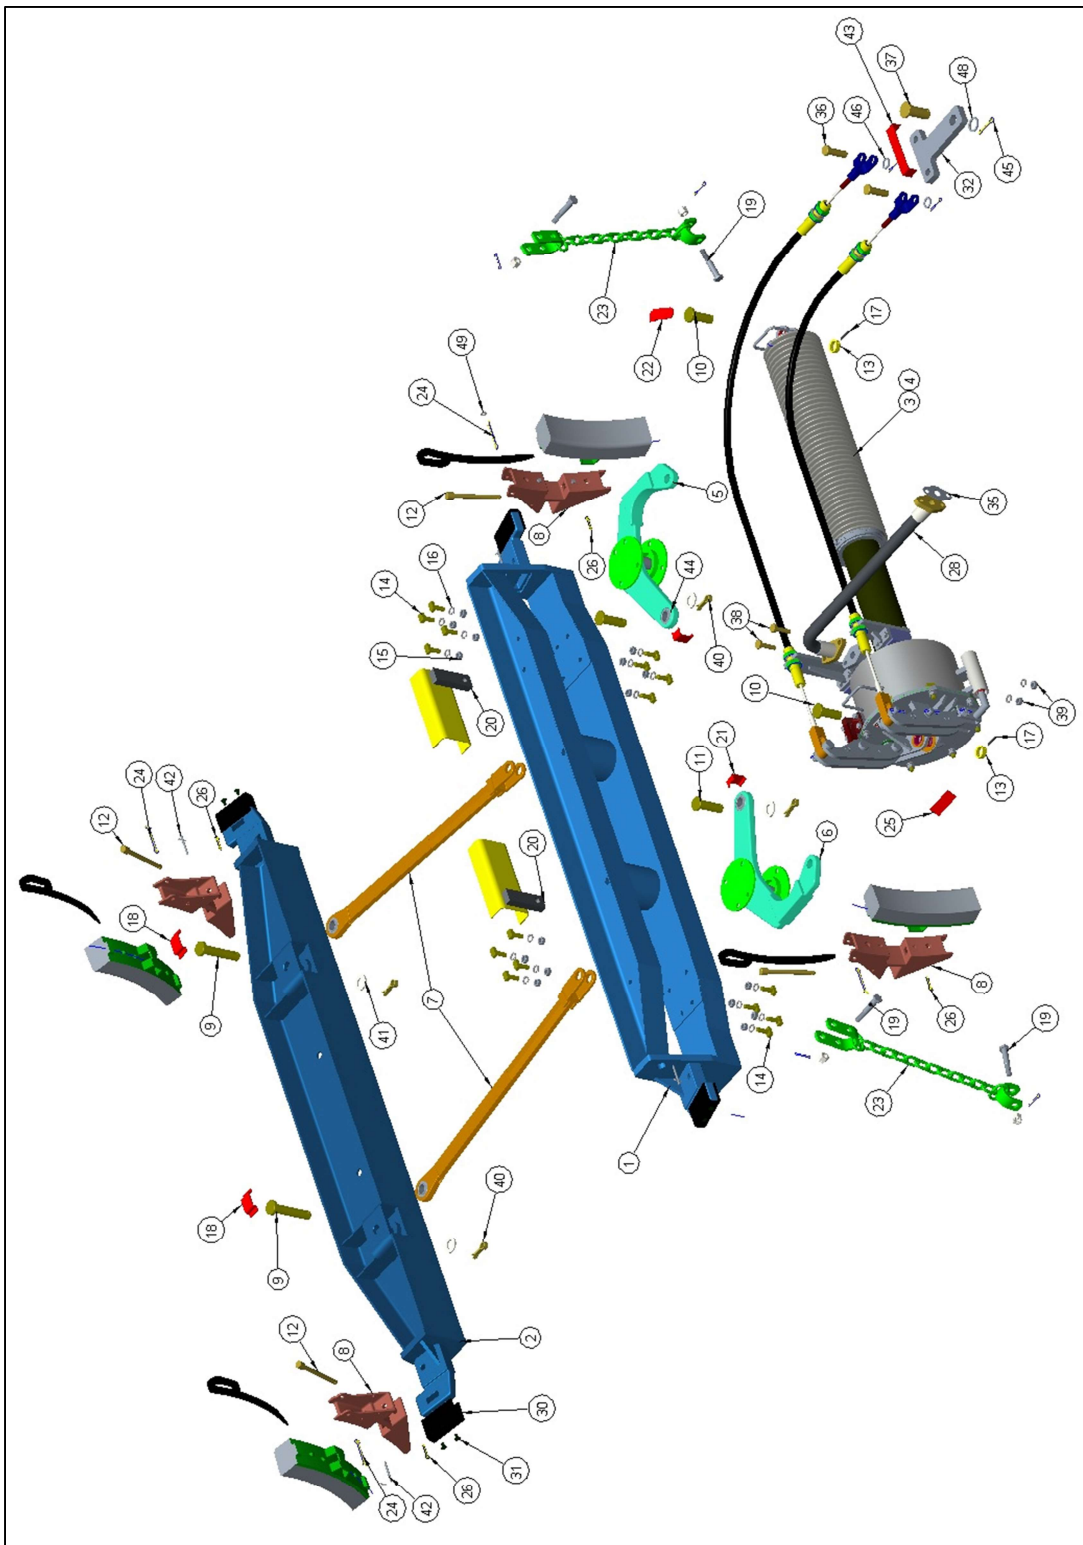

Figure 6: Exploded View of BMBS system
2. Fit the Brake head (8) on both ends of the beams (1,2) in the slot provided. (Ref. Fig 6,1B).
3. Put the Brake Head Pin (12) and lock it with a split pin (26).